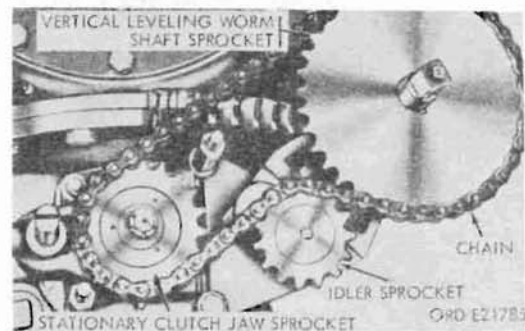
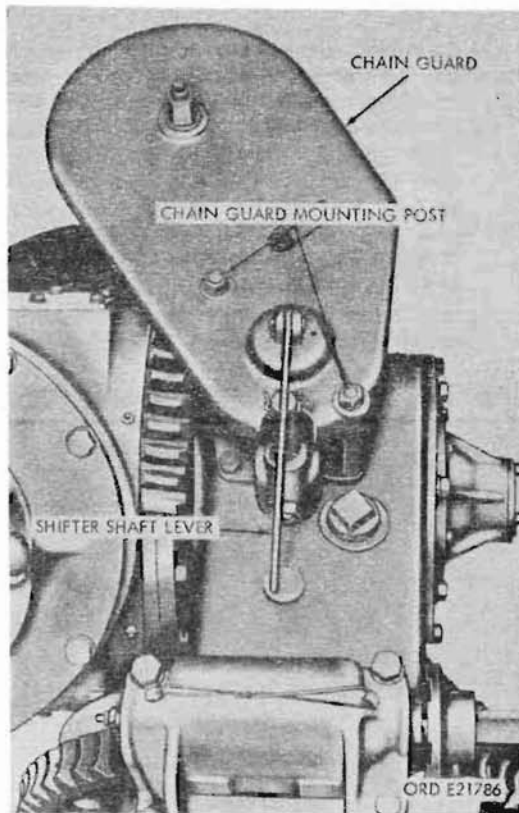
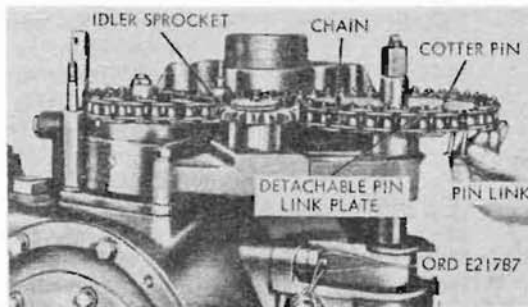

Figure 350. Vertical power-leveler chain - threading arrangement
Figure 351. Vertical power-leveler shifter shaft and chain guard
Figure 352. Removing vertical power-leveler chain
- (1) Removal. Remove cotter pin and clevis pin holding shifter-shaft lever (fig. 351) on shifter shaft, and remove lever. Remove two nuts and lockwashers holding chain guard on guard mounting posts, and remove guard and shifter-shaft lever. Loosen nut on idler sprocket (fig. 350) and place some slack in chain. Remove two cotter pins holding detachable pin-link plate on two adjacent pins, and remove link plate and pin link. Remove chain from power leveler.
- (2) Installation. Install chain (fig. 350) around outside of stationary clutch jaw sprocket and vertical leveling shaft sprocket. Install one end of chain around inside edge of idler sprocket so that sprocket bears on outside of chain. Secure chain ends together by inserting pin link (fig. 352) through end holes, installing detachable pin-link plate on pins, and installing cotter pins. Take up chain slack with idler sprocket to less than taut, and tighten hex-nut on sprocket to maintain adjustment. Install chain guard (fig. 351) on mounting posts with two hex-nuts and lockwashers. Install shifter-shaft lever in shifter shaft with clevis pin and cotter pin.
(Fig. 350)